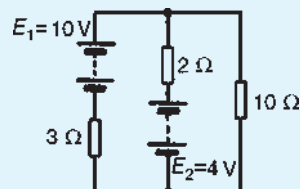
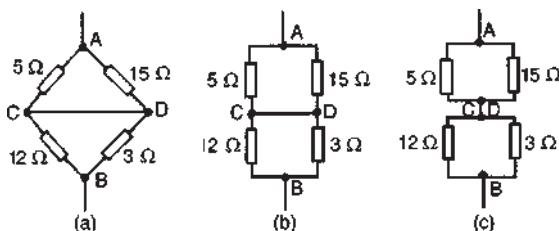

Figure 13.27
Figure 13.35
3. Use the superposition theorem to find the current in each branch of the network shown in Fig. 13.27.
- (viii) In Fig. 13.35(a), to find the equivalent resistance across AB the circuit may be redrawn as in Figs 13.35(b) and (c). From Fig. 13.27(c), the equivalent resistance across AB